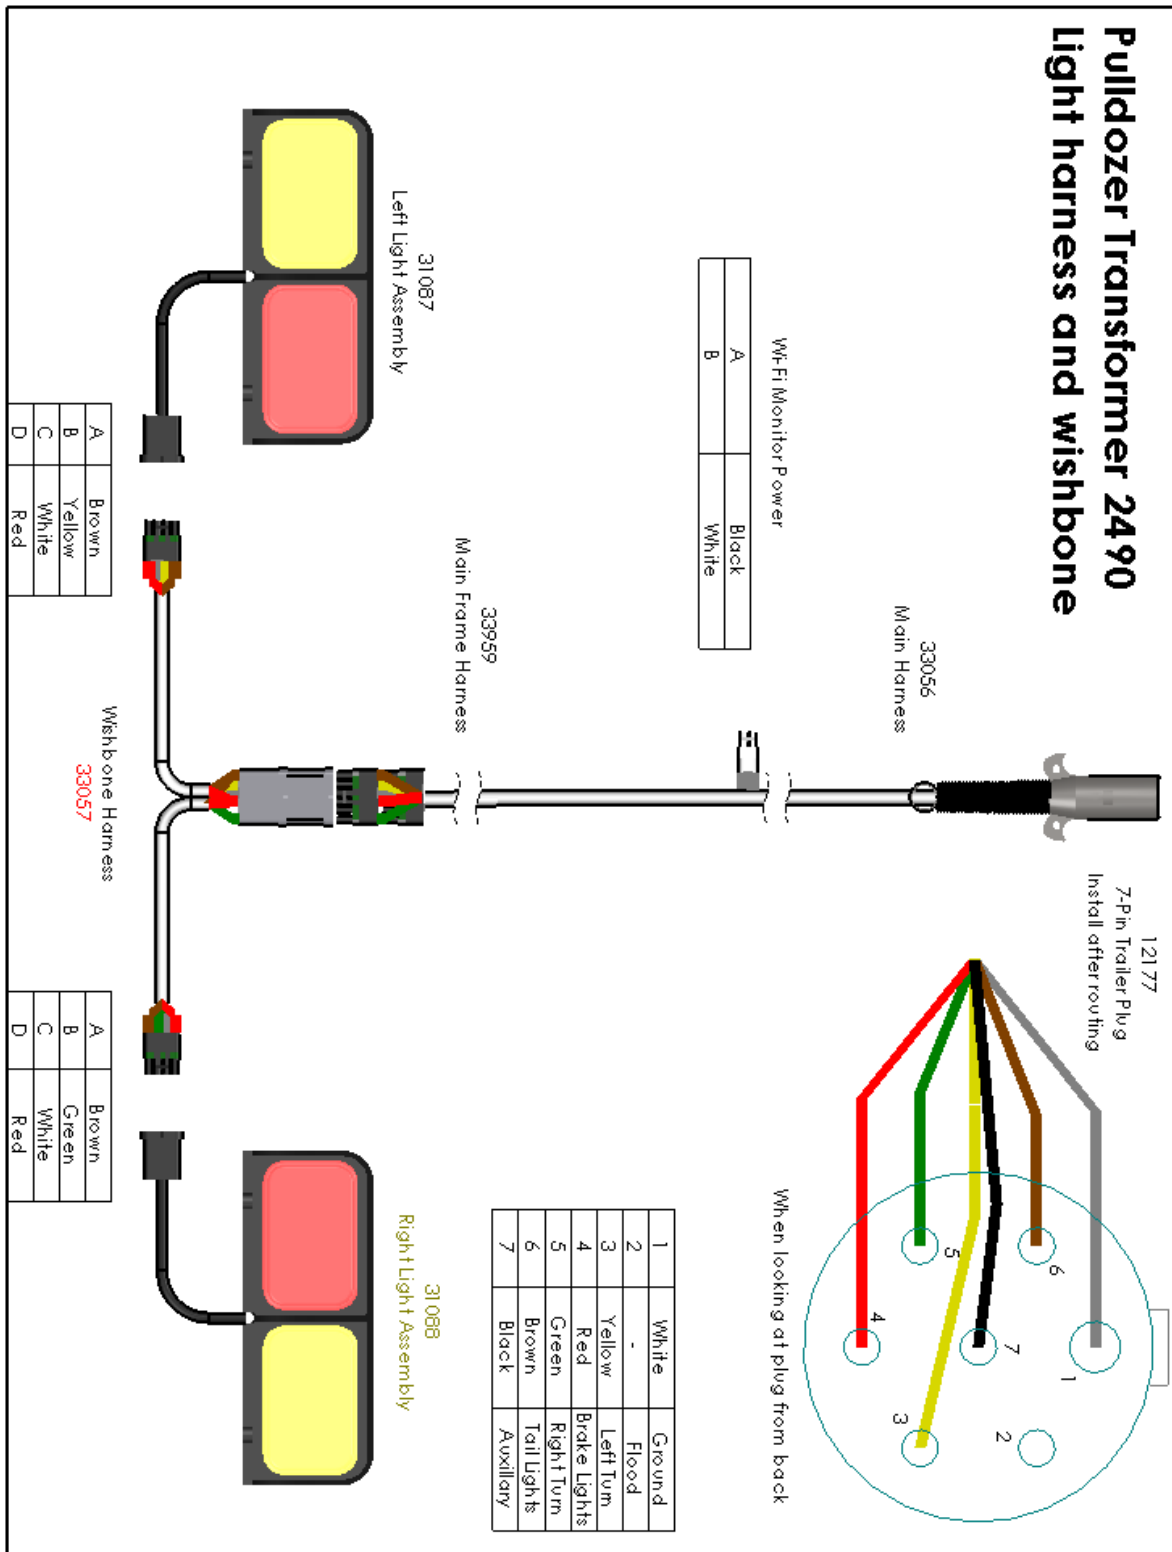

Figure 3.40 Pulldozer Transformer 2490 Light Wiring Schematic
- b) Connect the 7-pin round trailer plug following figure 3.40.
- d) Connect main harness (33056) to wishbone harness (33057) as shown in figure 3.40